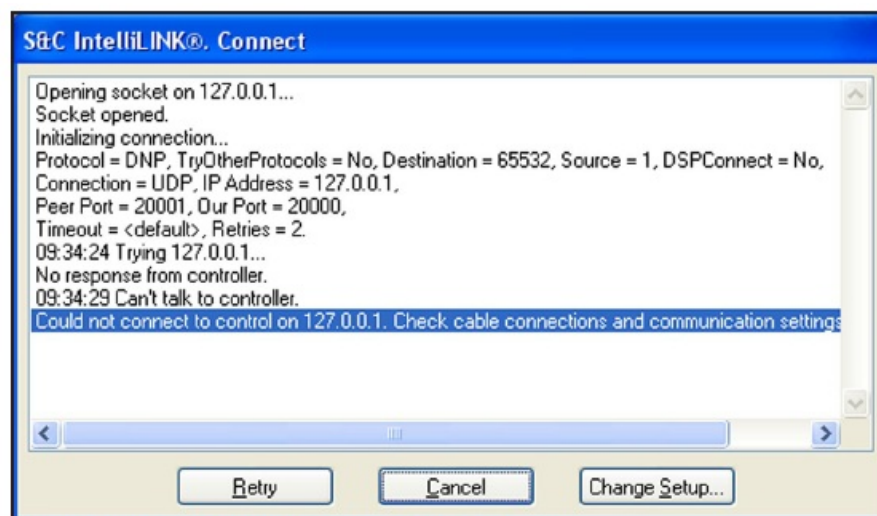

Figure 9. The IntelliLink Connect dialog box.
- **STEP 2.** When the IntelliLink software is launched, it is configured by default to connect to the control over a wireless link. It automatically attempts to establish this connection. Wait for the connection attempt to time-out. Messages in the Connect field should be approximately the same as shown in Figure 9.
- **STEP 5.** When the Options dialog box closes, the Connect dialog box will appear. Click on the Retry button. See Figure 9 on page 14. The IntelliLink software will attempt to establish a connection using the new communication parameters.